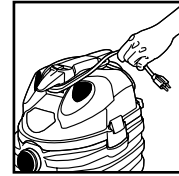

FIGURE 18
43. The power cord can be wrapped around the cord wraps provided on the top of the tank cover located in front and behind the handle. **FIGURE 18.**